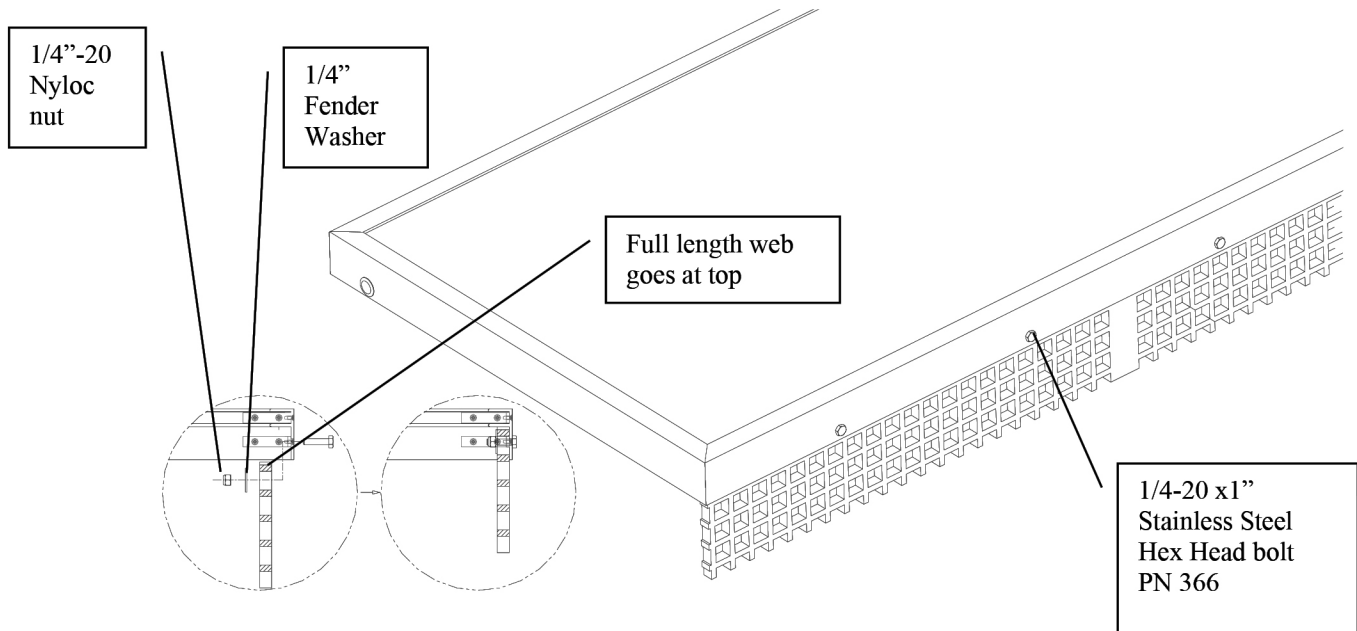

Figure 5.
6. Attach the grid front support to the rest bench using the supplied hardware. Be sure to place the grid so that the long side with a full length edge web is at the top to prevent the grid from slipping off of the bolts. See Figure 5.